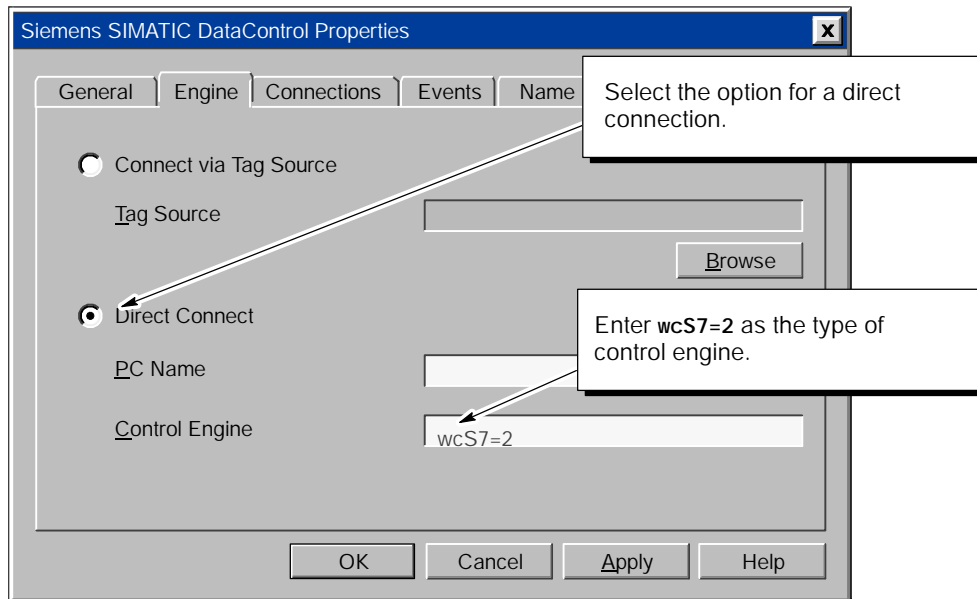

Figure 1-10 Connecting the Data Control to a Control Engine
1. Select the Engine tab to configure the control engine. See Figure 1-10.
Before you run the I/O Panel program, make certain that the control engine is running the sample program "Counters", and that you have configured the access point "Computing" (see Section 3.3) and selected the control engine in the Data control (Figure 1-10).